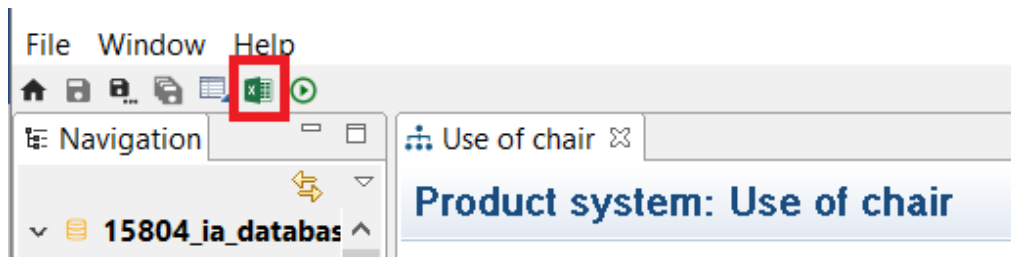
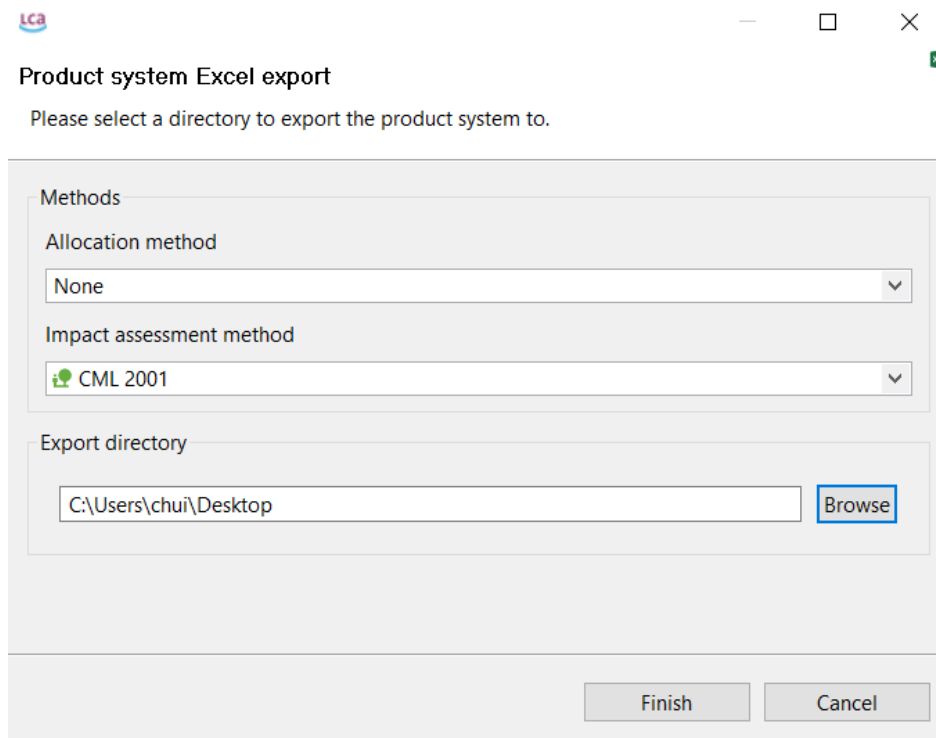

Figure 33: Exporting product system as excel file, step 1
Figure 34: Exporting product system as excel file, step 2
- To export product systems as excel first select the product system in the Navigator to open it up in the Editor. You can then select the excel export icon in the top left-hand corner (Figure 33). The product system excel export wizard will open. The "Methods" section can be filled out or left blank. Select an export directory and click "Finish" (Figure 34). A folder with one excel file for Elementary Flows and one for Product Flows will be saved.